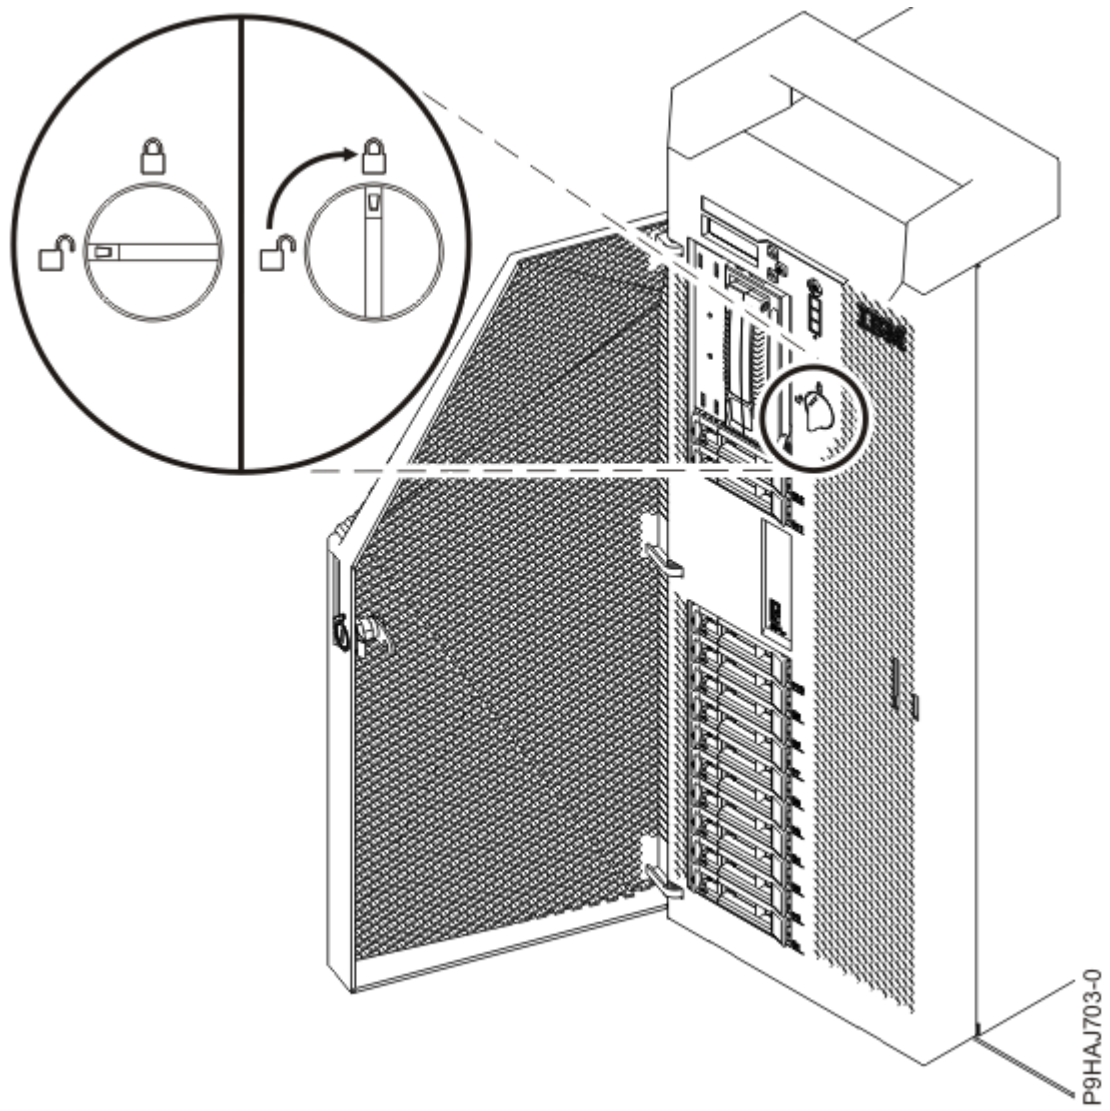

Figure 16. Closing the front cover latch
- d) Twist the cover latch to the right (clockwise) to lock the cover as shown in Figure 16 on page 31.